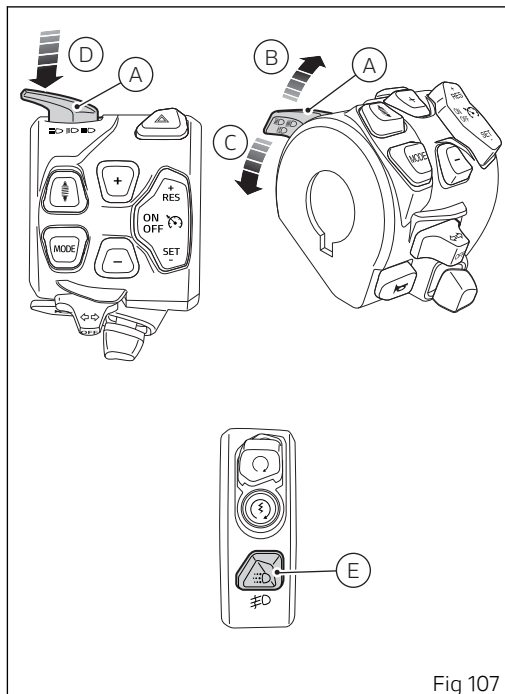

Fig 107
When the DRL is set to "Auto" mode, the corresponding warning light will turn on. If the DRL was set to "Auto" mode, press button (E, Fig 107) to disable that mode and set manual light management. Press again button (E, Fig 107) to re-enable DRL but with control strategy set to "Manual". In this case, upon next Key-On, DRL will be again set to "Auto" mode.
If the DRL lights are in this mode, as set through the "DRL" function within the "Setting menu" (page 253) DRL lights will not change their status upon key-on. To switch on or off the DRL lights, it is necessary to press button (E, Fig 107).
- if DRL lights are present, press and hold button (E, Fig 107) for a long time;
- if DRL lights are not present, press button (E, Fig 107).